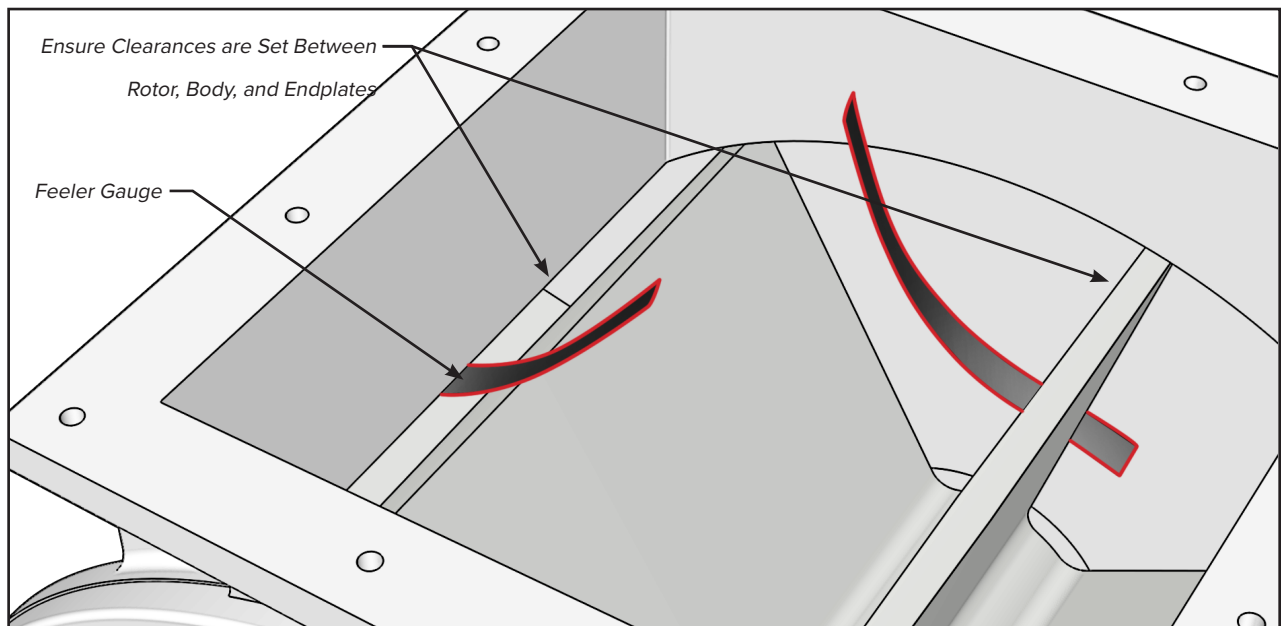

FIGURE 22
17. **Verify clearance using feeler gauges that ensure the rotor turns freely (Figure 22).**
2. Using a feeler gauge, check the clearance between the rotor and the end plates (figure 22). There should be minimum clearance of 0.003". Refer to Appendix 10 for clearance information as these may vary depending on operating temperature and valve size.
17. Using a feeler gauge, check the clearance between the rotor and the airlock end plates (Figure 22).